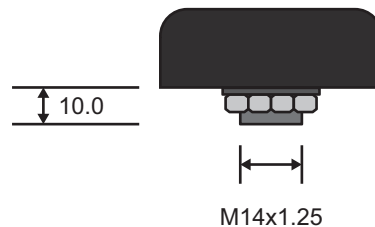

Figure 14.2 Antenna Cap — Dimensions
2. Cut a hole in the surface that will allow the cable to be thread through the surface. The cap will rest above the surface. Refer to **Figure 14.2** for dimensions.